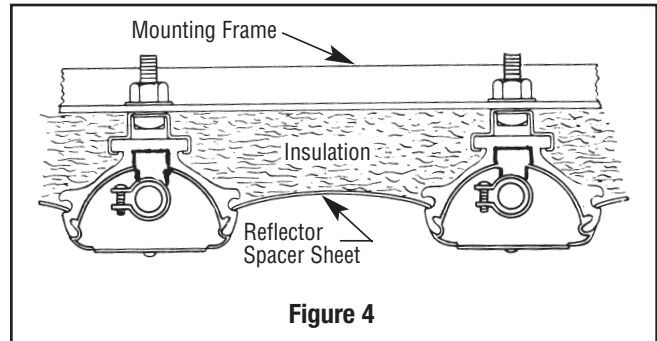

Figure 4
5. **Reflector Spacer Sheets** — Where heaters are not mounted side by side (see Fig. 4), reflector spacer sheets can be used between heaters. These reflector spacer sheets and companion reflectors consisting of an extruded aluminum housing with reflector sheet and mounting clamps are available. Check with local sales representative.
6. **Insulation** — Where unusually high work temperatures are encountered, it may be desirable to insulate backs of heaters with high-temperature fibrous insulation. A suggested method of accomplishing this is indicated in Fig. 4.